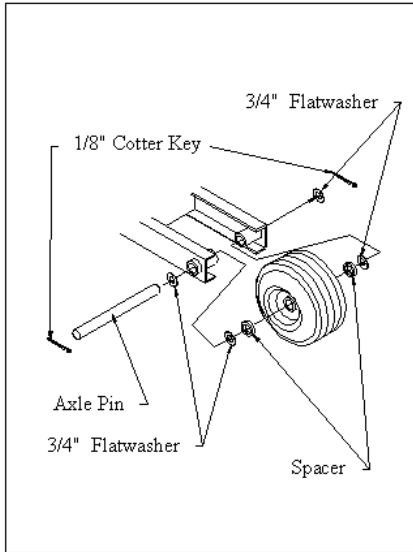

Fig. 1
1. Slip axle pin (9) thru frame (1) support tube and wheel (8), trapping one $\frac{3}{4}$ " flatwasher and one spacer (31) on each side of wheel. Place one $\frac{3}{4}$ " flatwasher on each end of axle pin and secure with $\frac{1}{8}$ " cotter key. **Fig. 1**